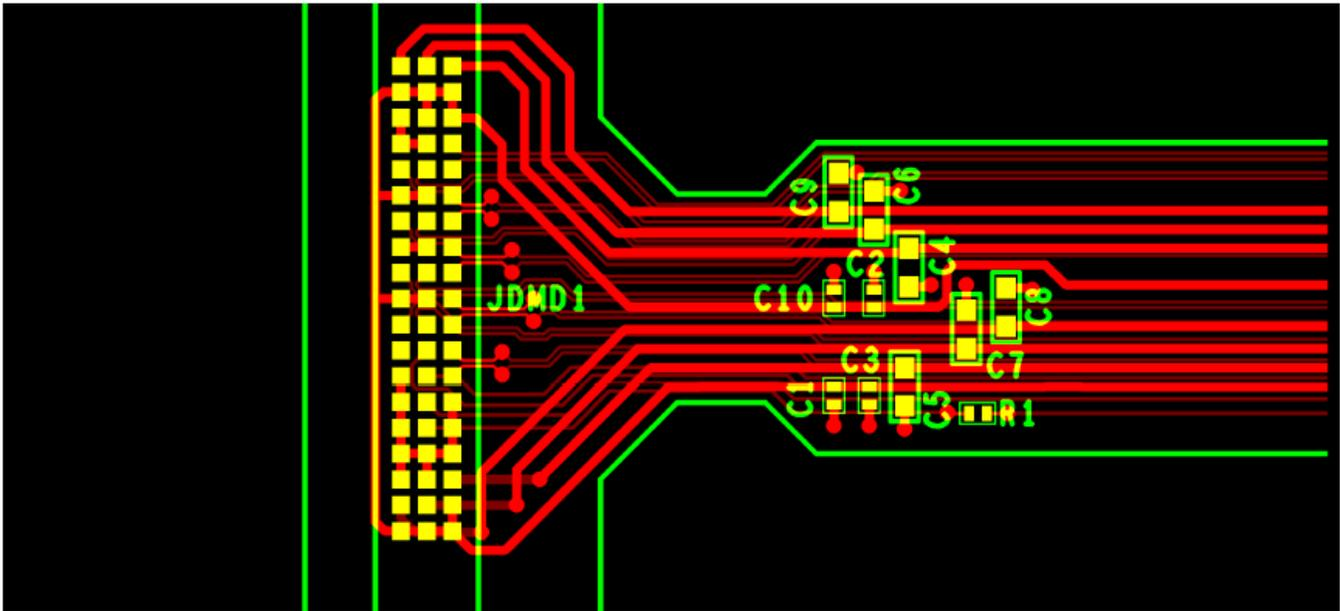

图 16. Power Supply Connections
- Minimize vias, layer changes, and turns for the HS bus signals. Refer 图 16.
- Place a minimum of two 220-nF decoupling capacitor close to VBIAS. Capacitor C3 and C10 in 图 16.
- Place a minimum of two 220-nF decoupling capacitor close to VRST. Capacitor C1 and C9 in 图 16.
- Place a minimum of two 220-nF decoupling capacitor close to VOFS. Capacitor C2 and C8 in 图 16.
- Place a minimum of four 220-nF decoupling capacitor close to VDDI and VDD. Capacitor C4, C5, C6 and C7 in 图 16.